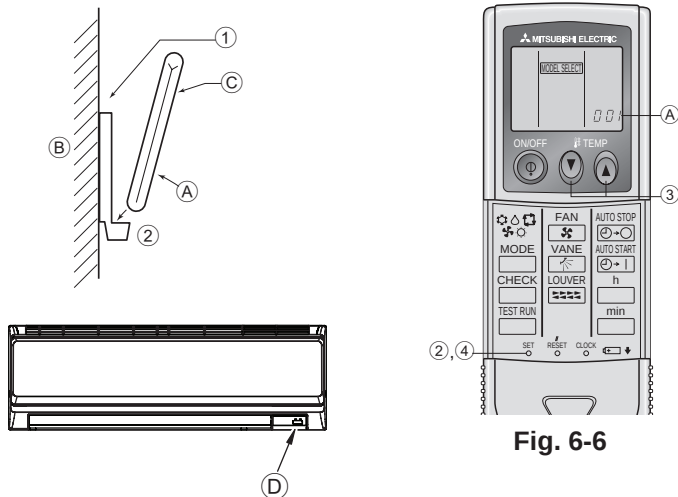
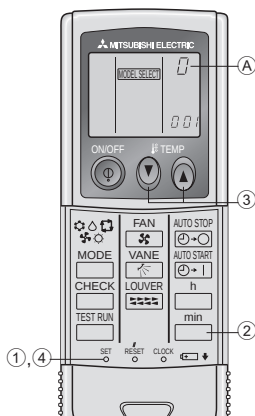

Fig. 6-5
Fig. 6-6
2) Installation method (Fig. 6-5)
- ① Attach the remote controller holder to the desired location using two tapping screws.
- (A) Remote controller
- (B) Wall
- (C) Display panel
- (D) Receiver
3) Setting (Fig. 6-6)
- ① Insert batteries.
- ② Press the SET button with something sharp at the end. **MODEL SELECT** blinks and Model No. is lighted.
- ③ Press the temp $\uparrow$ $\downarrow$ button to set the Model No.
- ④ Press the SET button with something sharp at the end. **MODEL SELECT** and Model No. are lighted for three seconds, then turned off.